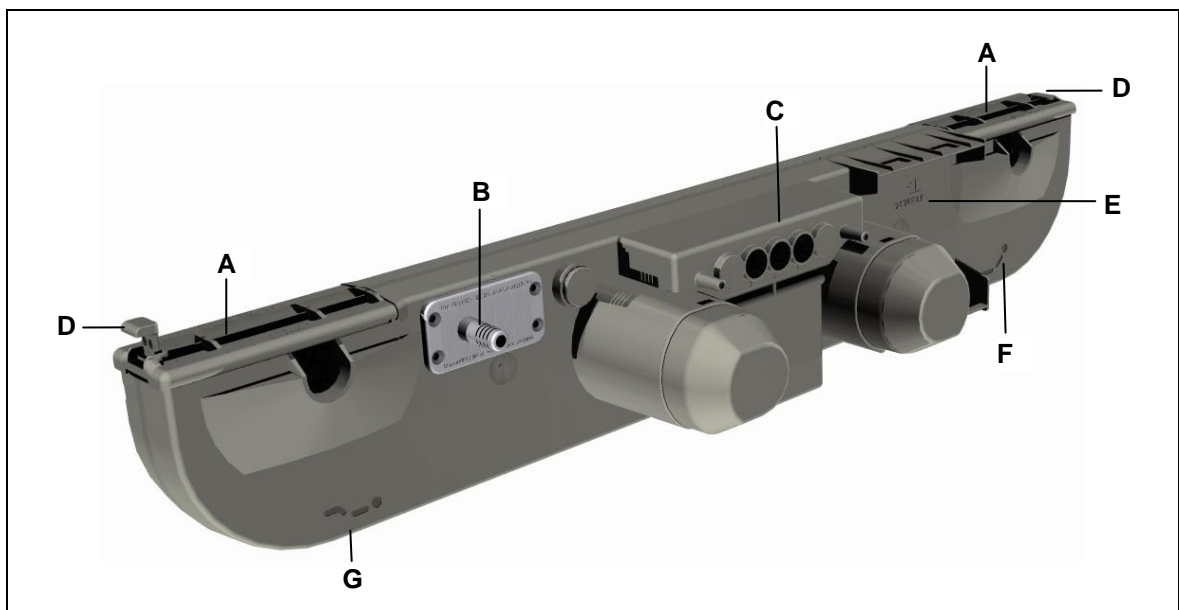
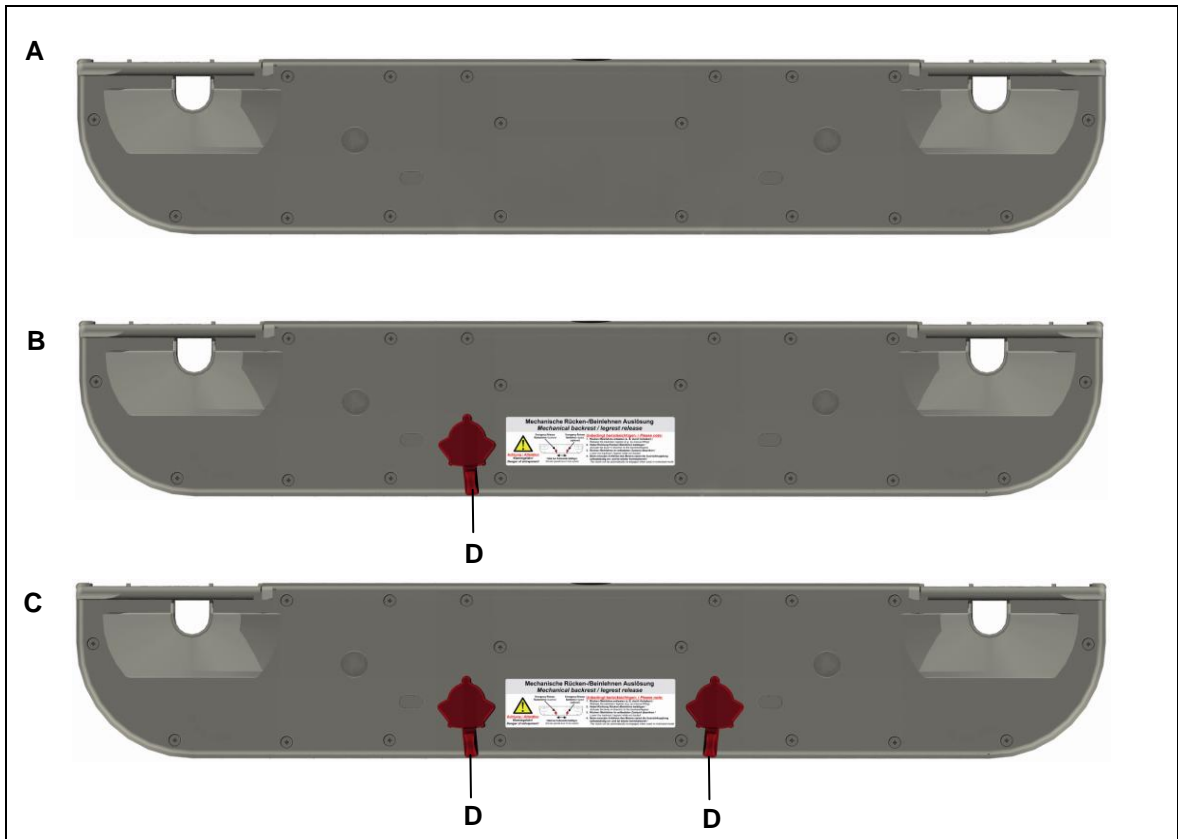

Figure 4 Main components of the DUOMAT 7 double drive
Figure 5 Back side of the DUOMAT 7 double drive
- 3 Pull out the optional snap-in locking device (refer to Figure 5) until it reaches the end stop.
- 4 Pull out the snapped-in shutters (B) far enough so that the slots (A) are opened up to receive the brackets (D).
- 5 Align the DUOMAT 7 next to your product. The slots for the head and foot sides must be properly aligned with the correct brackets on your product (refer to the symbols on the DUOMAT 7 as described in Figure 4).
- 6 Push the drive in so that the brackets (A) fit into the slots (D).
- 7 Close the shutters (B) by snapping them back in. The DUOMAT 7 is connected to your product when the shutters are snapped in.
- 8 Close the optional locking device by pressing it down (refer to Figure 4).